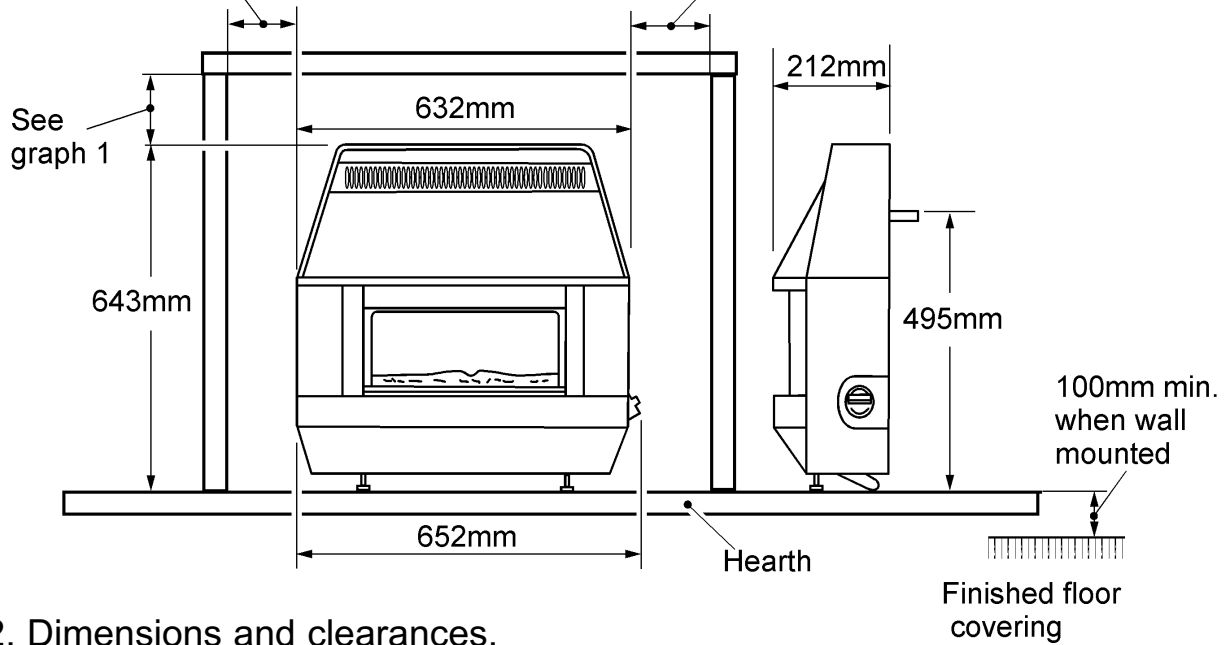

Figure 2. Dimensions and clearances.
**Do** provide a minimum clearance of 100mm between the fascia sides and any corner wall having combustible material or other combustible surface which projects beyond the front of the fire (See figure 2). Please bear this in mind if ever you are considering altering the room.